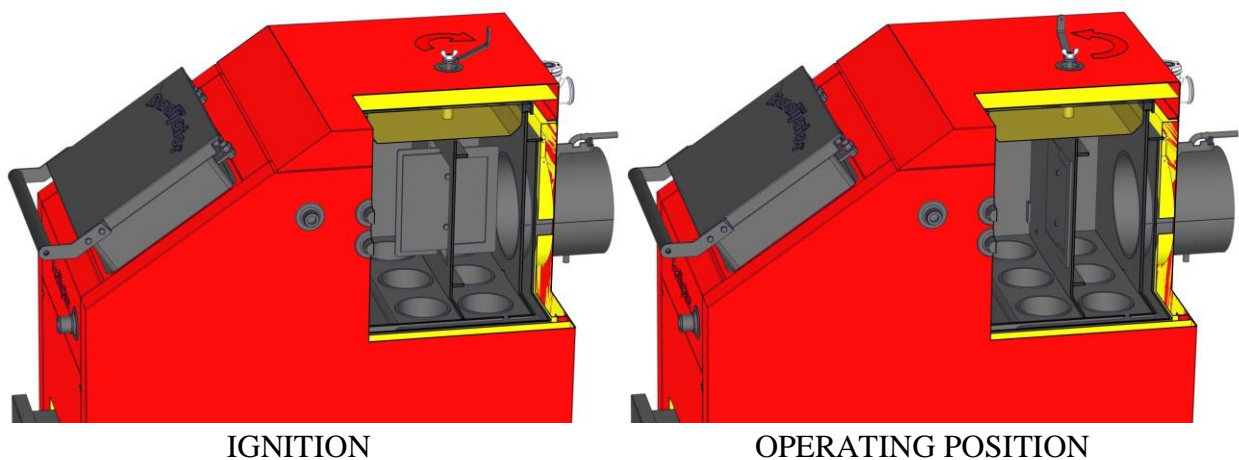

Figure 13. Shows position of cover in the boiler during ignition and operation of the boiler
- Inside the boiler there is a cover for directing the flue gas in two modes „operating” and position for „ignition”. This cover is operated by the handle on the side of the boiler. Move the handle in the direction towards the chimney. Than the cover is in the position for „ignition”. (**figure 13**).
- When the fire inside boiler becomes strong, the cover inside the boiler which is operated by handle on the boiler side shall be pushed towards front side that is in „operating” position. (**figure 13**)